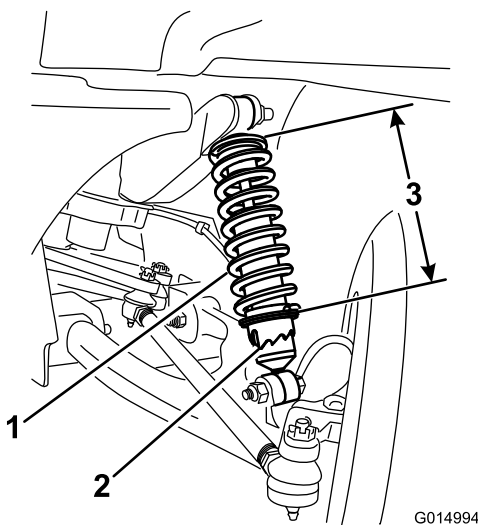

Figure 43
3. Using tool TORO 6010, rotate the collar on the shock absorber to change the length of the spring (Figure 43).